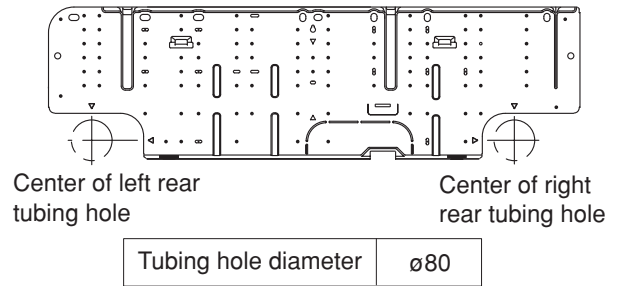
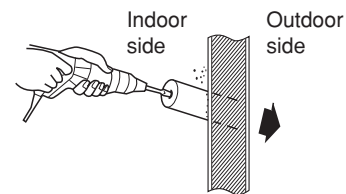

Fig. 3-46
Fig. 3-47
- (1) Remove the rear panel from the indoor unit and place it on the wall at the location selected. Fix the rear panel and hook the unit onto it temporarily. Make sure the unit is horizontal using a carpenter's level or tape measure to measure down from the ceiling.
- (2) Determine which notch of the rear panel should be used. (Fig. 3-46)
- (3) Before drilling a hole, check that there are no studs or pipes behind the determined location. The above precautions are also applicable if tubing goes through the wall in any other location.
- (4) Using a sabre saw, key hole saw or hole-cutting drill attachment, make a hole (dia. 80 mm) in the wall. (Fig. 3-47)